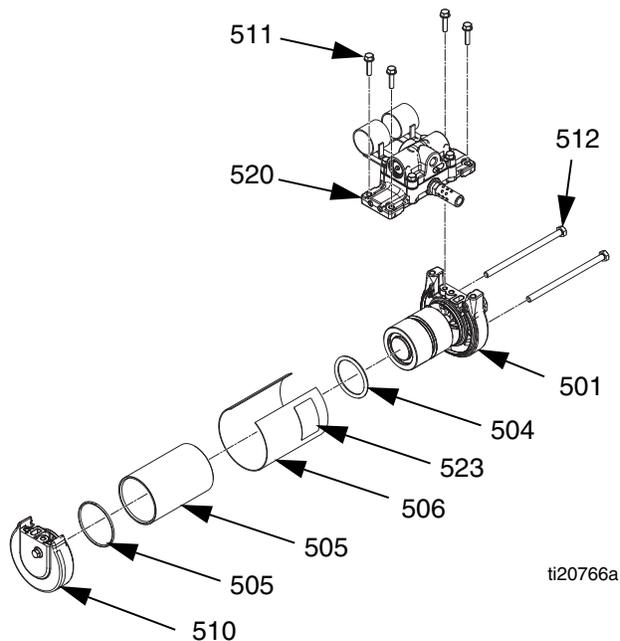

FIG. 52
Disassembly (see FIG. 52):
4. Use 10 mm socket to remove four screws (511) to remove air manifold assembly (520). See FIG. 52.
5. Use 13 mm socket to remove two bolts (512) then remove air motor top cap (510).
6. Remove and discard piston o-ring (504) from piston (519).
Reassembly (see FIG. 52):